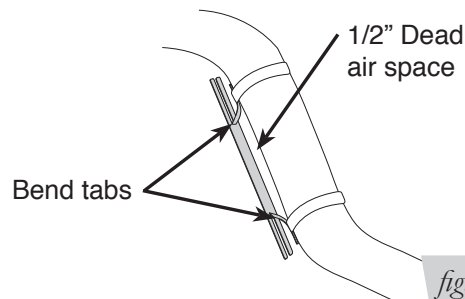

fig. 16
1. Bend tabs to provide a 1/2" dead air space between exhaust pipe and heat shield (Fig. 16).
2. Attach the heat shield to the exhaust pipe using the clamps. Bend the heat shield for maximum clearance to the air spring (Fig. 16).